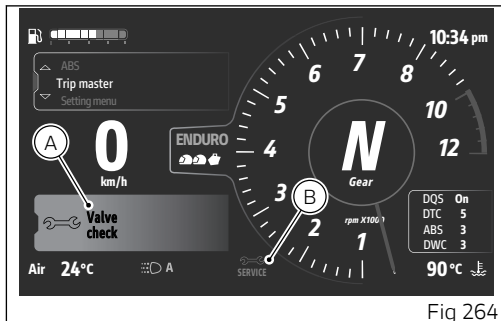
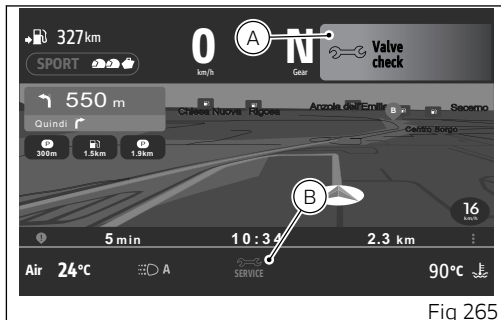

Fig 264
Fig 265
Service coupon deadline warnings are displayed in 2 modes: big (A) and small (B). These figures indicate the corresponding positions in the main page (Fig 264) and in the Ducati Connect page (Fig 265).